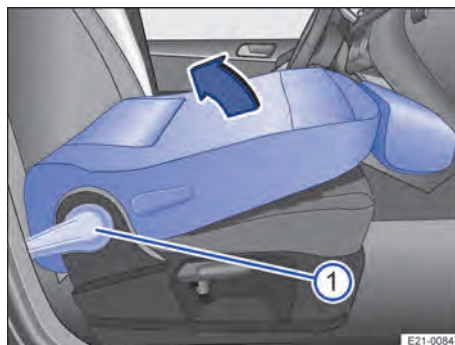

Fig. 63 Front passenger seat: Pull the backrest back.
2. To fold it back, press the lever → Fig. 63 ① down to release the front passenger seat backrest again.
3. Fold back the front passenger seat backrest in the direction of the arrow → Fig. 63 until it reaches the upright position.